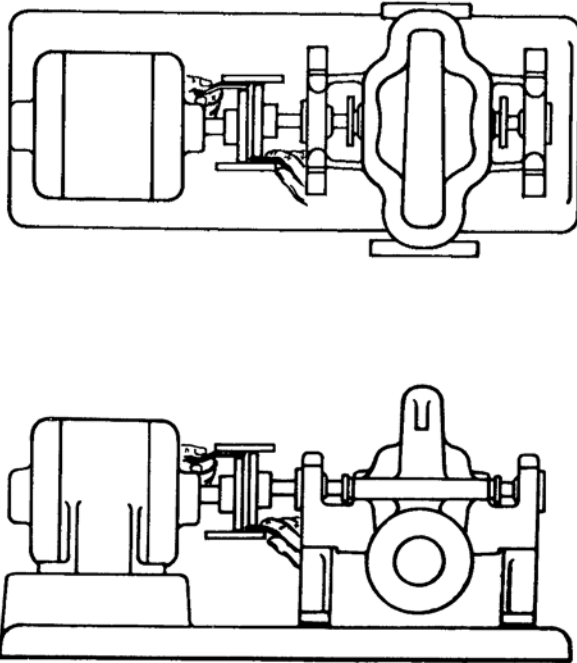

Figure 5:
6. Check parallel misalignment - shaft axes parallel but not concentric-by laying straight edge across both coupling rims at top, bottom and both sides. See Figure 5: on page 14.